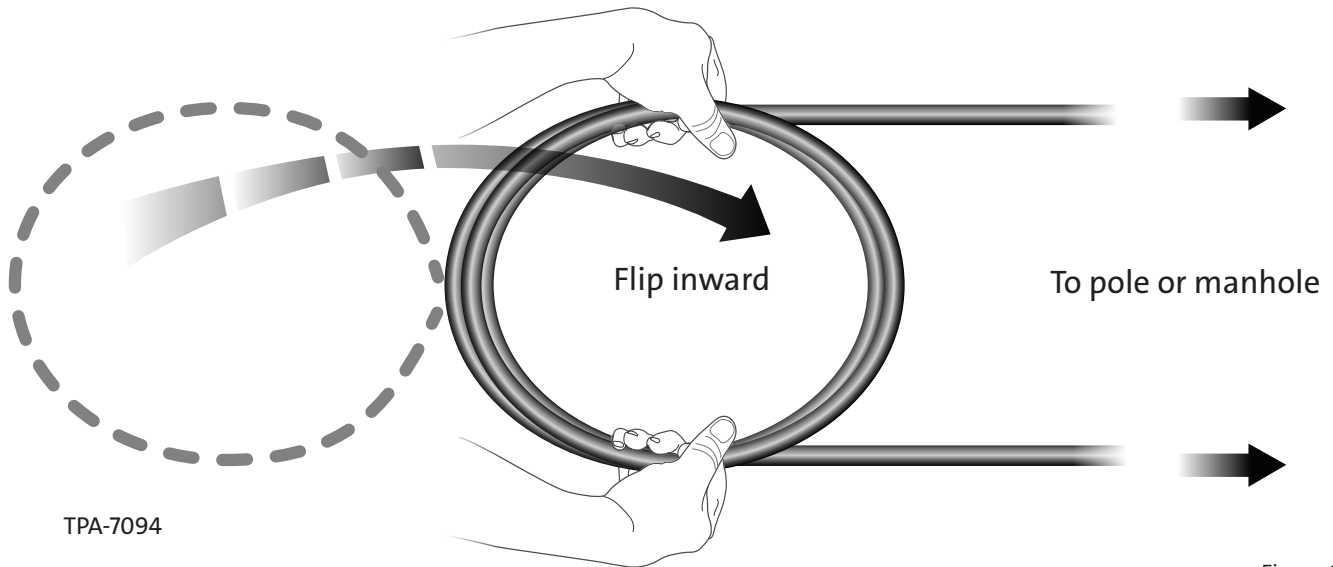

Figure 6
Step 7: Continue this process, alternating the rotation back and forth clockwise to counterclockwise. This will ensure that additional twisting does not occur within the cable. (Figure 6).